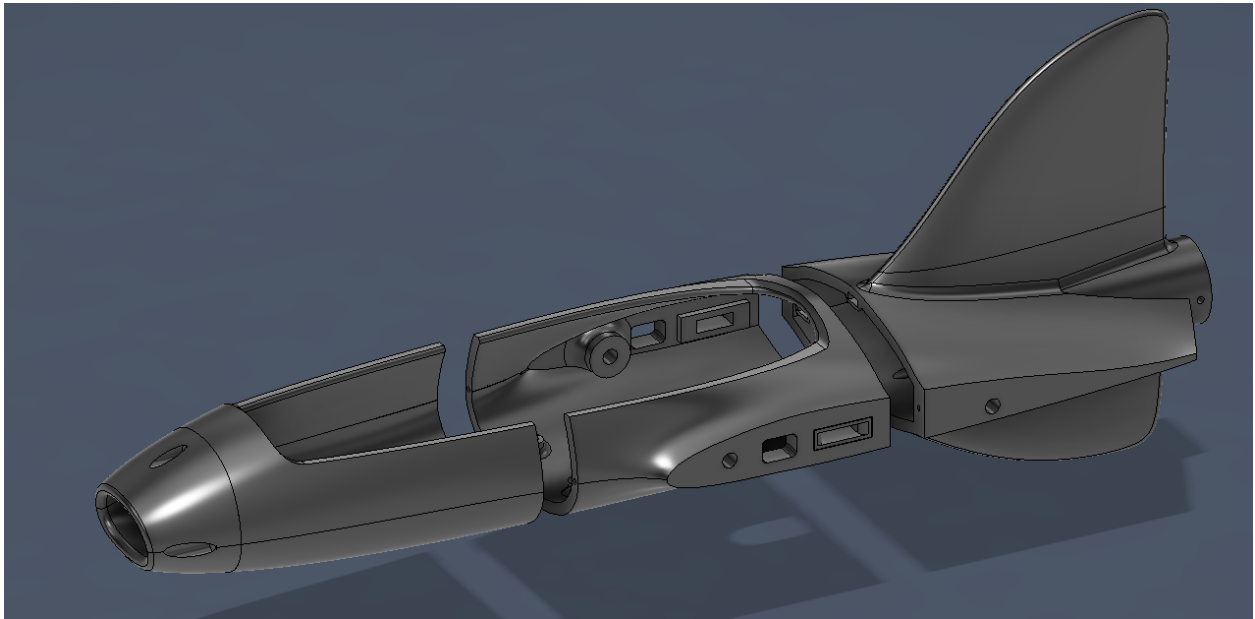

Figure 9: Fuselage assembly
Assemble **Fus (1)**, **Fus (2)**, **Fus (3)**, and **Fus (4)** by aligning them in order as seen in Figure 9. Insert the five filament inserts into the designated holes between the fuselage sections. Apply glue to the mating surfaces and press the fuselage parts firmly together, ensuring all inserts are properly seated and the sections are aligned. Hold the assembly in place until the glue sets securely.